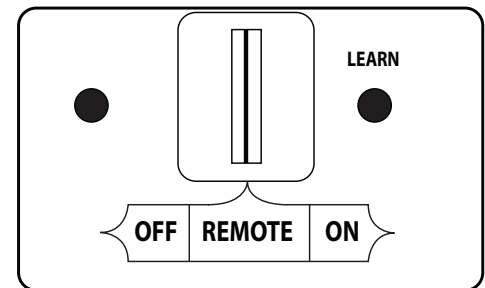
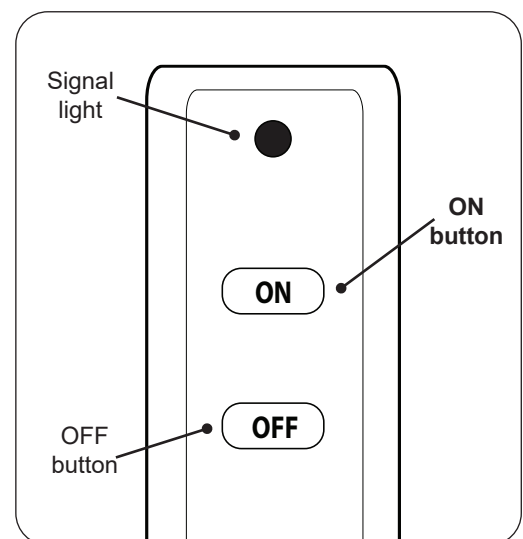

Fig. 29-1 Remote receiver detail (REMOTE)
Fig. 29-2 Remote transmitter detail
1. Locate the 3-position switch on the remote receiver (see Fig. 29-1), and slide the switch to the **REMOTE** position.
**Note:** For Switch Box Models, ensure that the ON/OFF switch at the front of the switch box is in the **OFF (O)** position.
2. Locate the remote transmitter and press the **ON** button (see Fig. 29-2). The ignition sequence will begin.